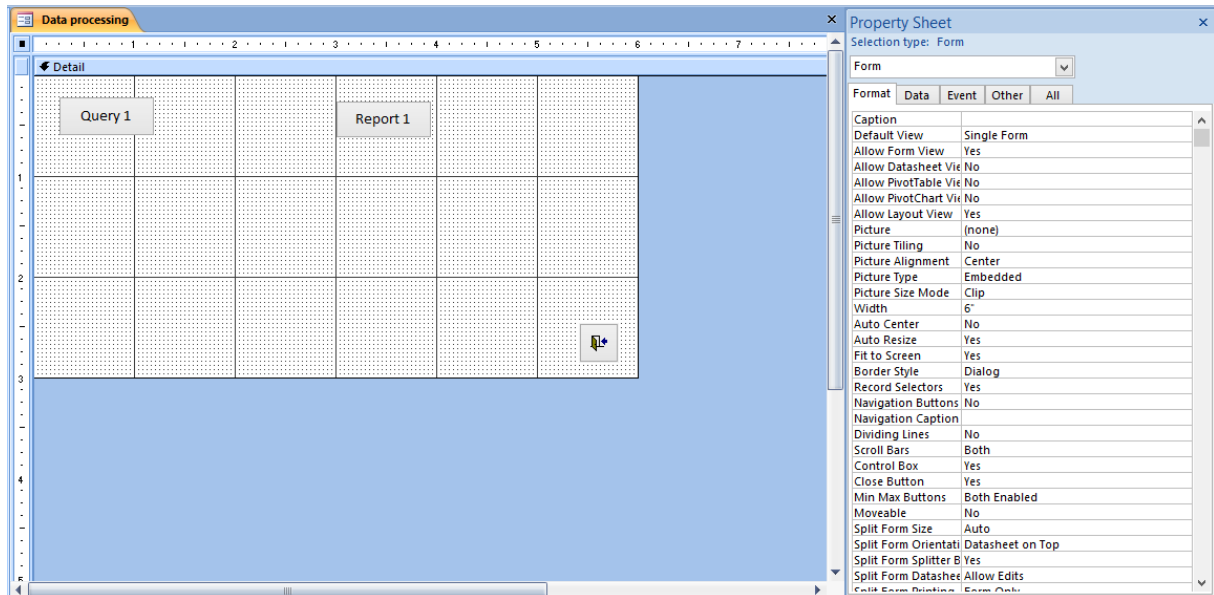

Figure 7.2
- 7) Place buttons as it is shown in figure 7.2;